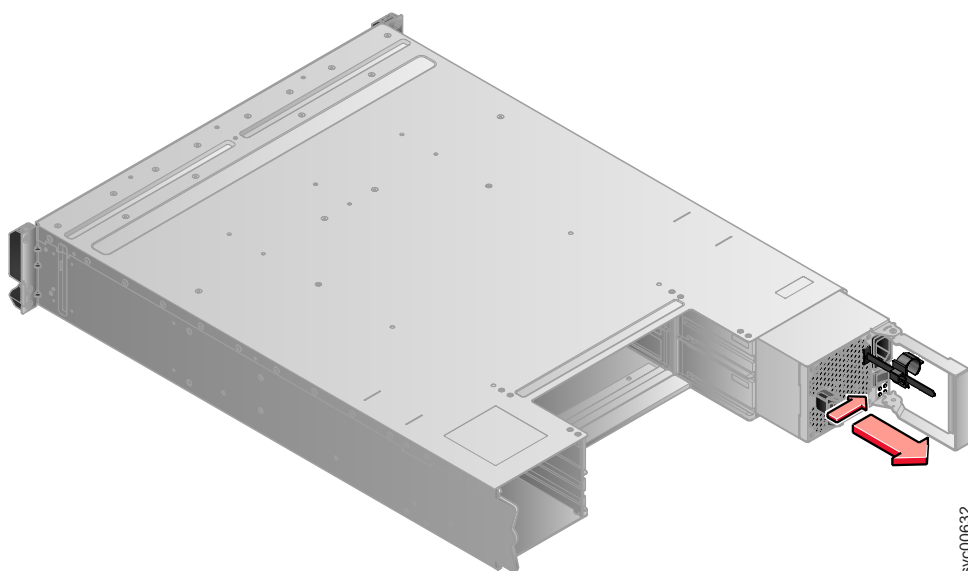

Figure 32. Using the handle to remove a power supply unit
- b. Grip the handle to pull the power supply out of the enclosure as shown in Figure 32.